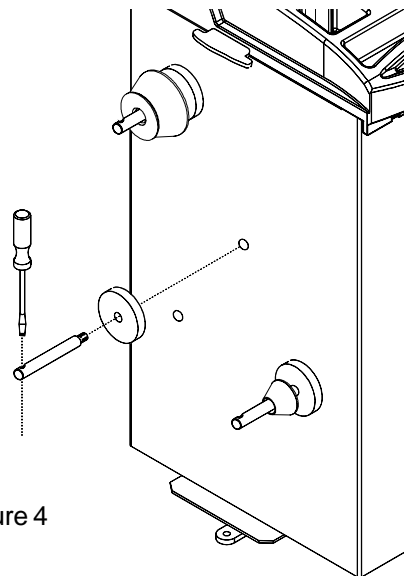

Figure 4
A. Install the accessory pins (Figure 4). Tighten firmly.